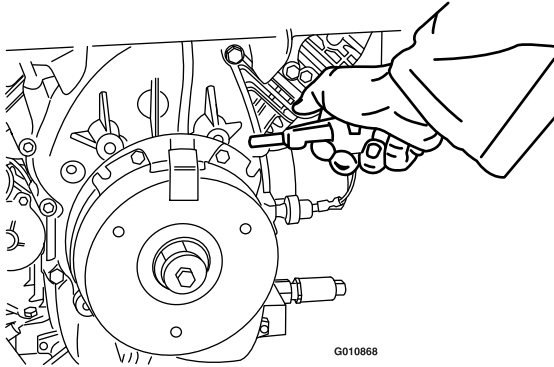

Figure 68
2. Using an air compressor, blow out any debris from under the brake pole and around the brake spacers (Figure 68).